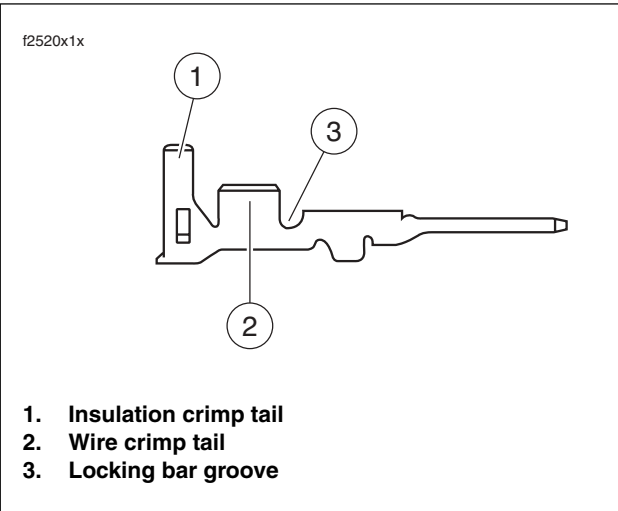
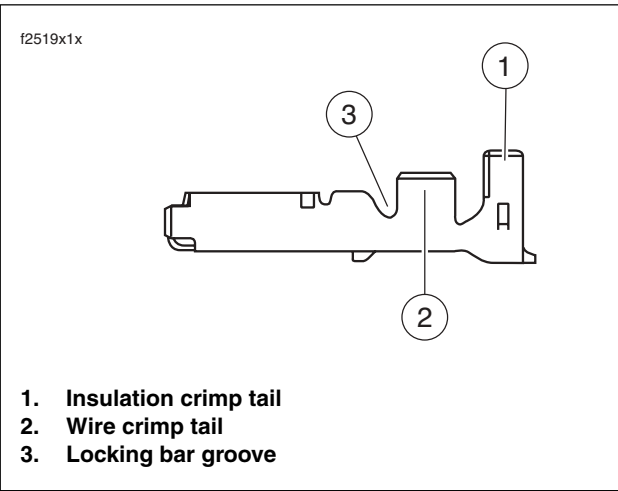

Figure B-4. Pin Terminal
Figure B-5. Socket Terminal
- 2. See Figure B-4. and Figure B-5. Select the pin/socket terminals from the parts catalog and identify the wire crimp tails (1) and the insulation crimp tails (2) and the groove for the crimp tool locking bar (3).
See Figure B-4. and Figure B-5. Hold the terminal with the installation crimp tail (1) facing up. The tool will hold the terminal by the locking bar groove (3) and crimp the wire crimp tail (2) around the bare wire of the stripped lead and the insulation crimp tail around the insulation.